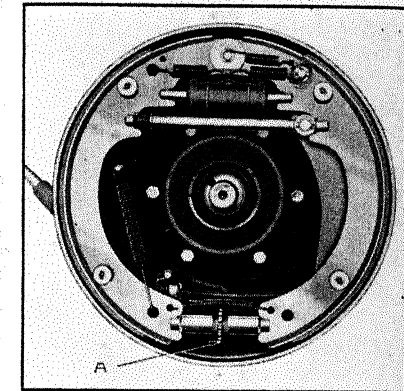

Figure 2
B. Remove cover plate (D) Figure 1, and with screw driver, or special Auburn brake tool AP-35, turn adjusting screw (A), Figure 2, toward rim of backing plate until slight brake drag is felt when turning wheel by hand. Then back off the adjusting screw 7 notches. This adjustment, when made at each wheel, will give uniform shoe setting. Shoes should show a tight .010" clearance at anchor end (top) and a loose .010" clearance at bottom. Always replace cover plate (D).